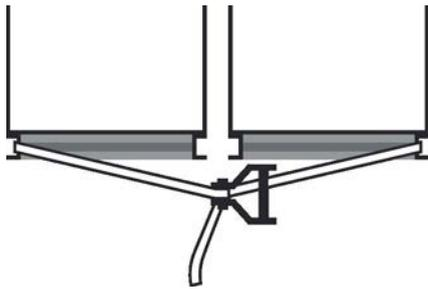

Fig. 16: Attaching a ratchet strap
4. ▶ Attach a ratchet strap to the base frames of two casing units (Fig. 16).